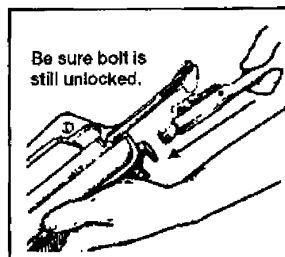

Figure 071-311-2025-33. Placing the bolt carrier
- k. Push the charging handle and bolt carrier together in the upper receiver (figure 071-311-2025-34).